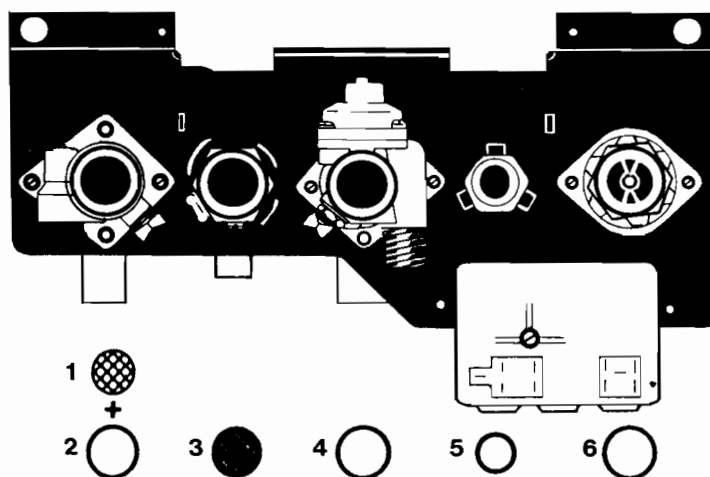

Fig. 11
6.6.5 Sealing washers and filters are provided with the boiler. These **MUST** be used when making the connections between boiler and connecting plate. Fig. 11 identifies and gives the correct location of all the filters/washers required.